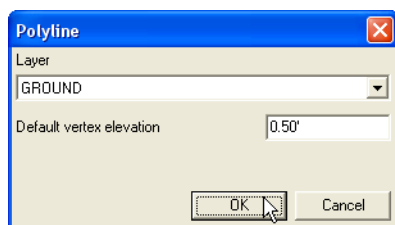

Figure 4-7. Enter New Polyline Parameters
3. On the **Polyline** dialog box, select the layer in which to enter the new polyline and enter an elevation for the polyline, then click **OK** (Figure 4-7).